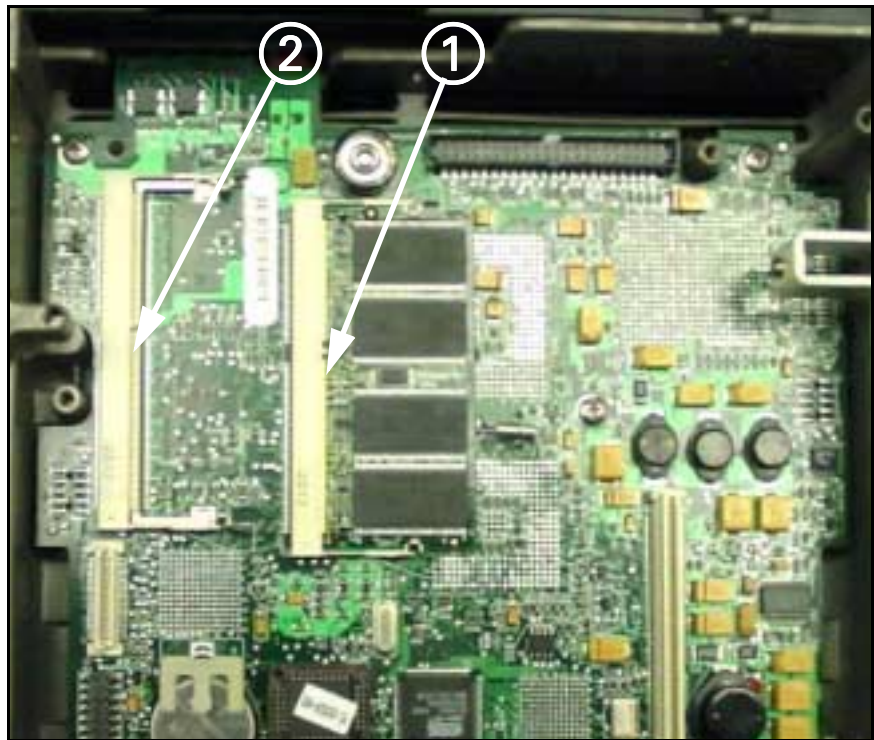

Figure 10-9 Memory slots
- 6) Lift defective memory module ① or ② (not installed in Figure 10-9) out of memory slot and remove module.
- 7) Align pins on replacement memory module to connector on motherboard (① or ② in Figure 10-9).